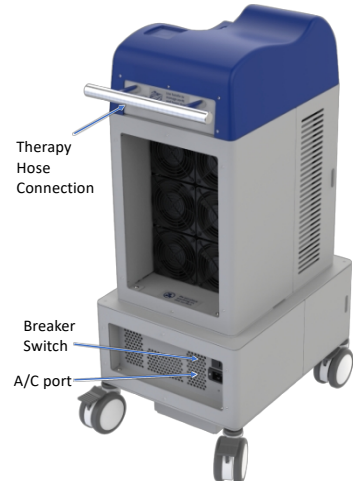

Figure 6. DigniCap Delta - Back
4. Connect the main power cable to the A/C port on the back of the device and to a main outlet (Figure 6).